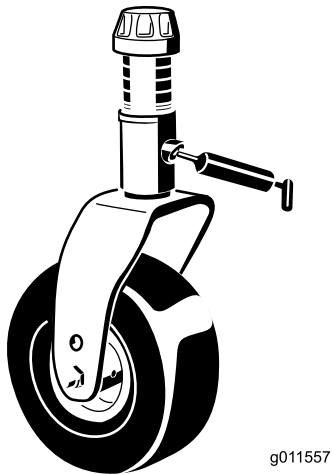

Figure 20
- Castor fork shaft bushings (2)(Figure 20)